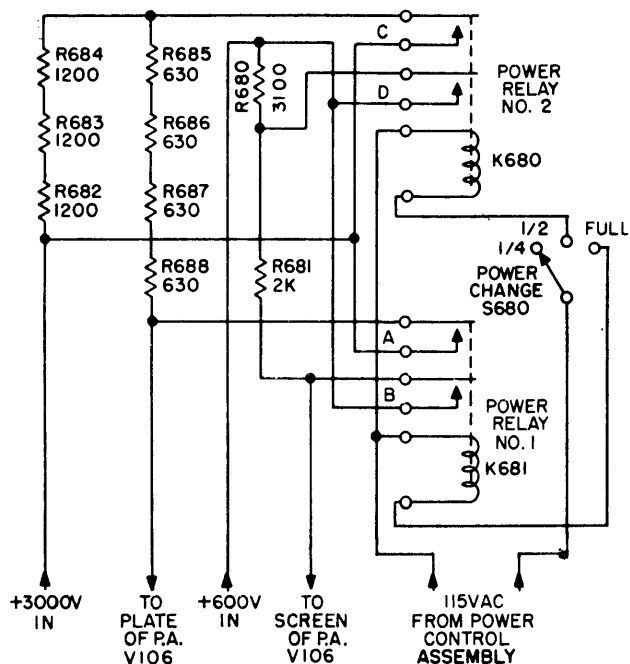

Figure 2-27. Power Change Assembly, Simplified Schematic
(7) POWER CHANGE ASSEMBLY (see figure 2-27).—The Power Change Assembly, shown in figure 1-9, is used for operating the transmitter at full, one-half, or one-fourth its rated output. When POWER CHANGE switch S680 is at the FULL position, 115 volts, ac, is applied to power relay No. 1 (K681), causing contacts (A) and (B) to close. During phone operation, contacts (A) permit modulated voltage to be applied through choke L691 to the plate of power amplifier V106. During c-w operation, the same contacts apply an unmodulated voltage of 3000 volts, dc, to V106 since the secondary winding of modulator transformer T691 is shorted out by contacts of modulator disabling relay K601. Contacts (B) of K681 permit 600 volts, dc, to be applied to the screen grid of V106. Operating S680 to the 1/2 position de-energizes K681 and actuates power relay No. 2 (K680), causing contacts (C) and (D) to close. Contacts (C) short out part of the voltage-dropping branch consisting of R682 through R684, leaving the remaining four resistors (R685 through R688) in series with the plate feed to V106 so that this stage applies one half of its full power to the antenna system. Contacts (D) short out voltage-dropping resistor, R680, leaving R681 in series with the 600-volt, d-c feed to the screen-grid circuit of V106 so that the stage can operate properly with reduced plate voltage. Operating S680 to the 1/4 position, de-energizes both relays K680 and K681, with the result that voltage-dropping branch R682 through R688 is in series with the plate circuit of V106, and R680 and R681 are in series with the screen-grid circuit of V106. For this condition the transmitter feeds